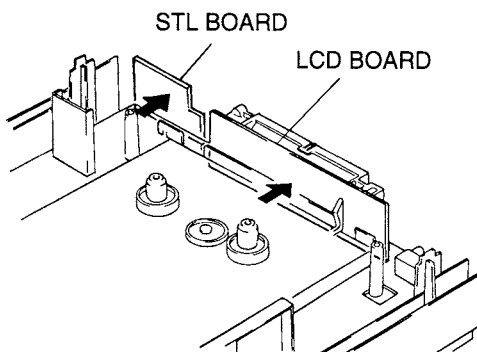

Fig. 2
**2-1. Procedure to set the STL and LCD boards to the servicing positions (Fig. 2)**